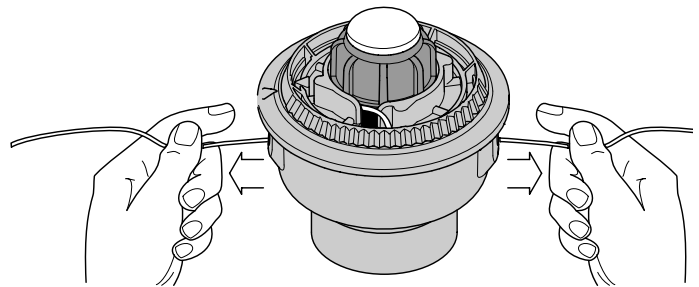

Fig. 17
9. If winding the line becomes difficult or if the line jams, pull the ends of the line from the spool (Fig. 17). Continue winding the inner reel counterclockwise.
If the SpeedSpool® does not release line correctly, pull the ends of the line firmly from the spool (Fig. 17). If this does not release the line, follow the *Cleaning the SpeedSpool®* instructions.